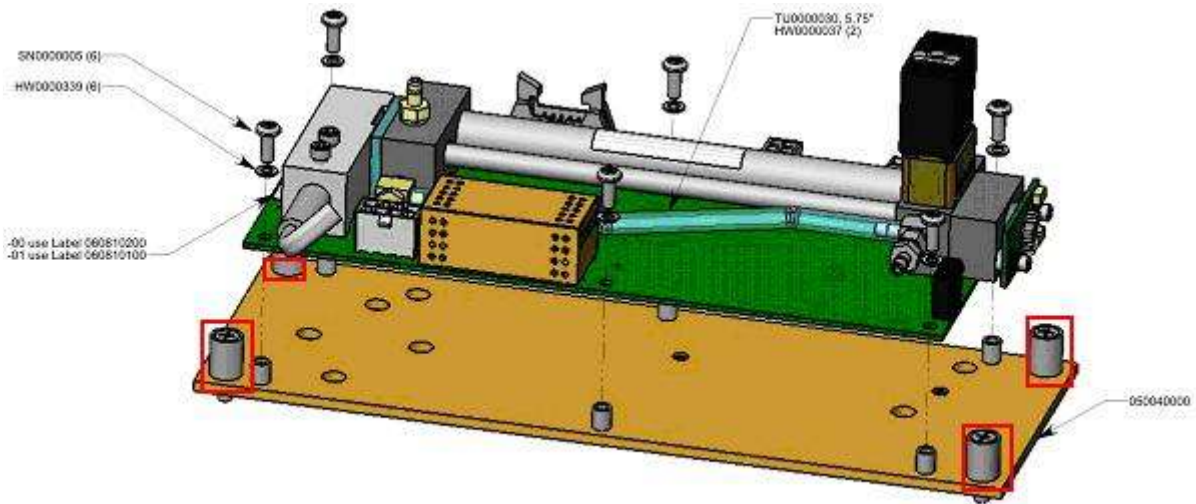

Figure 4.
3. Locate the four screws securing the sensor to the chassis shown in figure 4 and unscrew them.